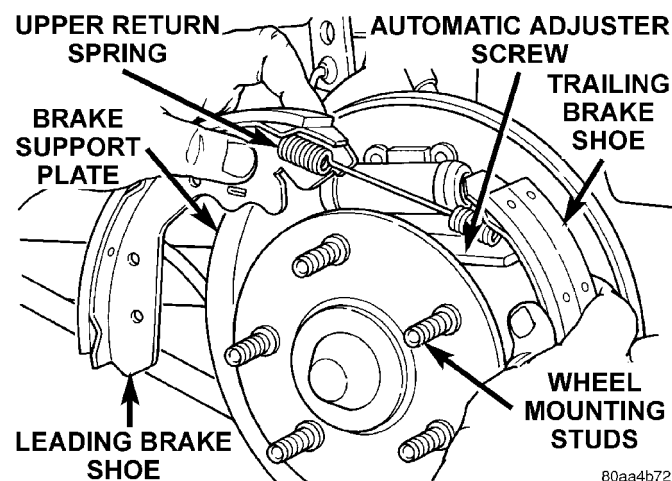
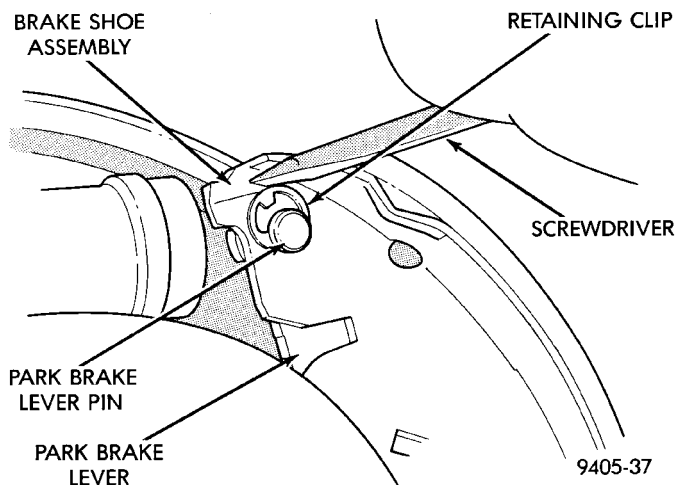

Fig. 86 Remove /Install Brake Shoes
Fig. 89 Park Brake Lever Pin Retaining Clip Installation
from the brake support plate as an assembly (Fig. 86).
(2) Assemble front and rear brake shoe assembly, automatic adjuster screw and upper return spring before installation on brake support plate.
(3) Install the pre-assembled brake shoes, automatic adjuster screw and upper return spring on the brake support plate (Fig. 86).
(4) Install the wave washer on the pin of park brake lever.
(5) Install pin on park brake lever into hole in rear brake shoe assembly (Fig. 89).